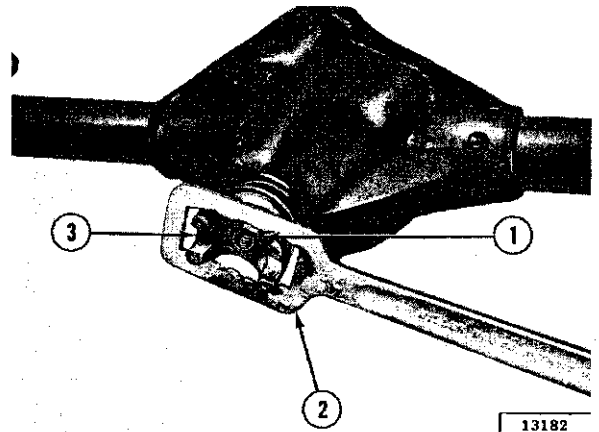
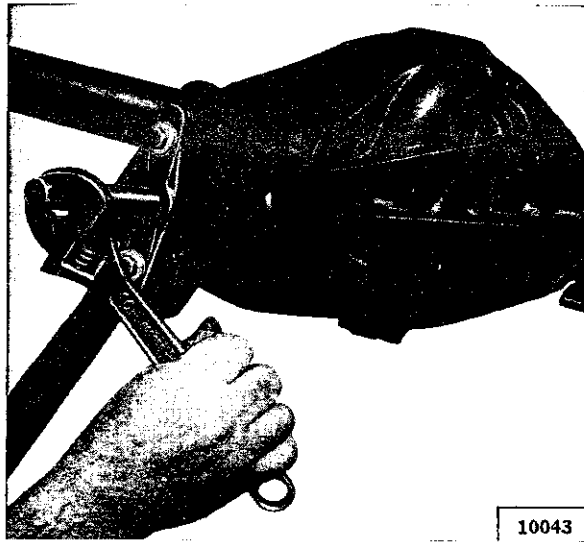

FIG. N-21—END YOKE HOLDING WRENCH
FIG. N-22—END YOKE PULLER
- k. With Tool C-3281 to hold the shaft as shown in Fig. N-21, remove the nut. With Puller W-172 remove the yoke as shown in Fig. N-22.